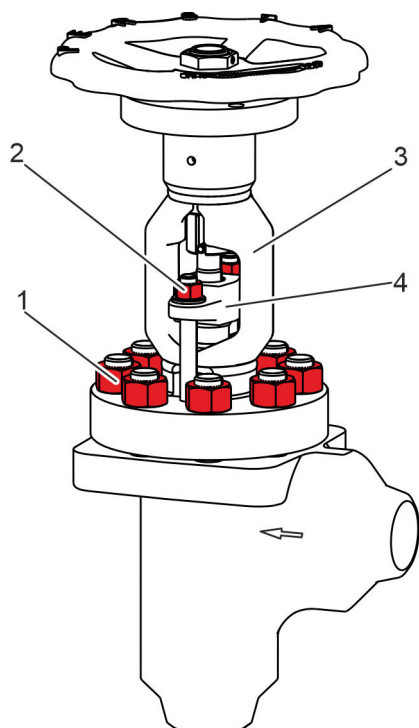

Fig. 29: Screwing on nuts
- 20.** Fit the gland follower flange (Fig. 29/4) on the stem.
- 21.** Fit the gland follower flange (Fig. 29/4) on to the stud bolts in the body.
- 23.** Loosely screw together the nuts (Fig. 29/2) with the stud bolts in the body.